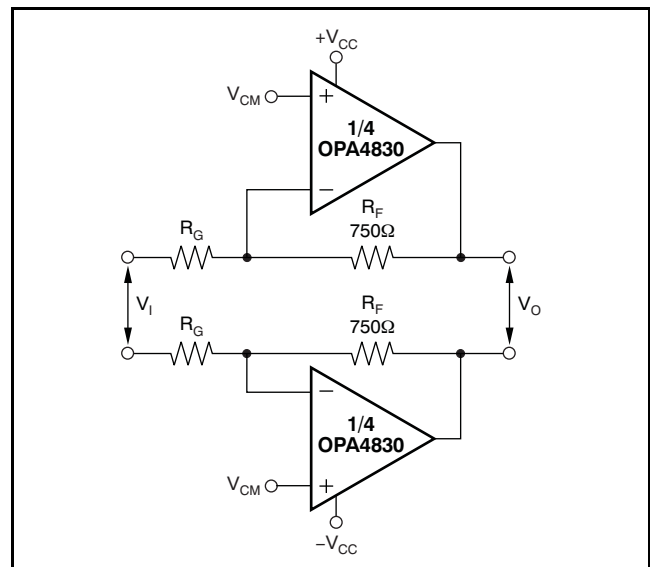

Figure 81. Inverting Differential I/O Amplifier
Figure 81 shows a differential I/O stage configured as an inverting amplifier. In this case, the gain resistors (RG) become the input resistance for the source. This configuration provides a better noise performance than the noninverting configuration, but does limit the flexibility in setting the input impedance separately from the gain.